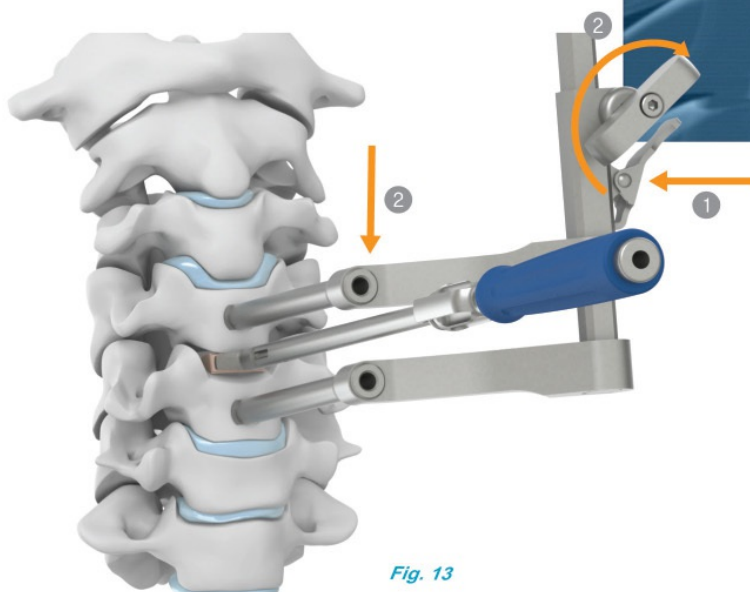

Fig. 13
When the cage positioning is satisfactory, apply compression to the treated segment: first release the retractor ramp brake ①, then turn the wheel ② (Fig. 13).